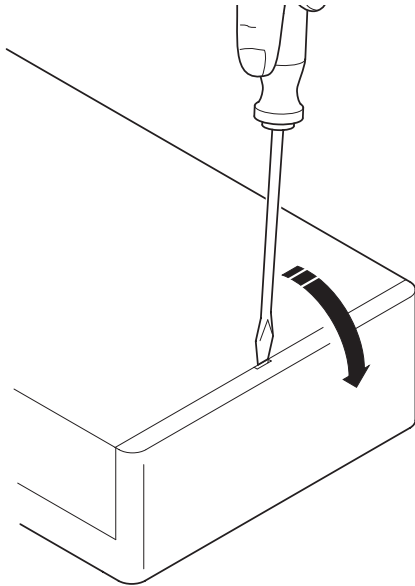

Figure 1 Opening the module programmer box
- 2 Open the module programmer box lid by placing a flat bladed screwdriver in the hole and opening the catch. Refer to Figure 1.